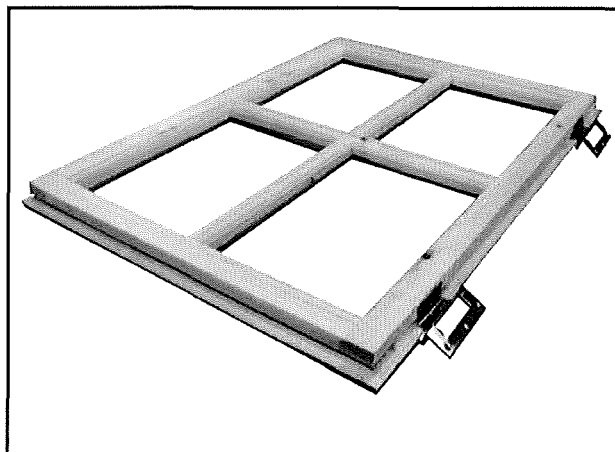

Fig A10- STYLE MAY VARY
19. **Window insert.** Place one hinge on the inner rebate part of the window; approx. One hinge width along from the rebate edge of the longest edge of the insert. The rounded part of the hinge should sit above the outer edge of the window. Screw the inner piece into position ( fig. A10 & A11 ) using the pre drilled holes in the hinge and 3 x 25mm screws. Repeat with the other hinge. And close the hinges together.